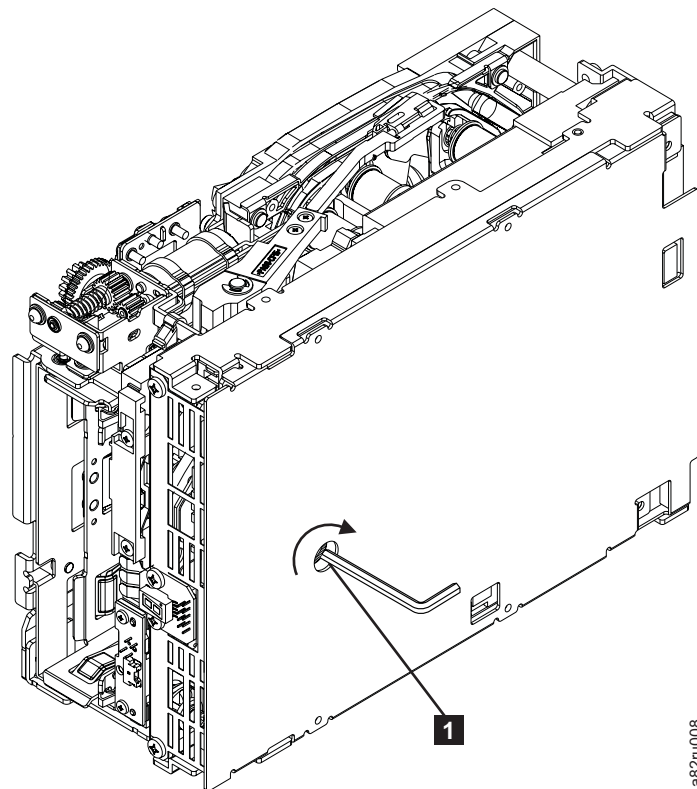

Figure 14. Using hex wrench to rewind tape into cartridge
- \_\_\_ Step 6. From the bottom of the drive, locate the access hole ( **1** in Figure 14) in the bottom cover. Insert a 2.5 mm offset hex wrench through the bottom cover access hole and into the reel motor axle. begin spooling tape back into the cartridge by turning the hex wrench clockwise.